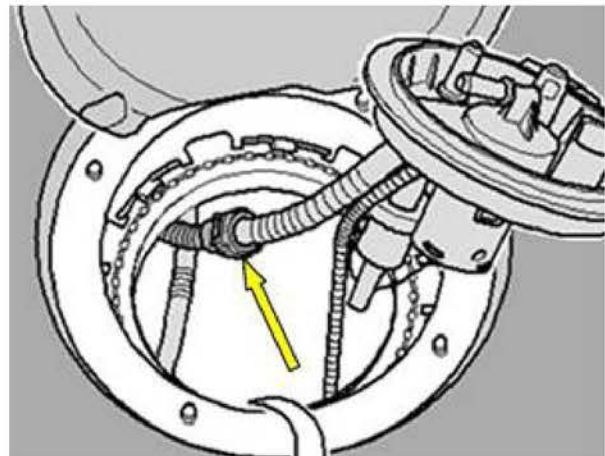

Figure 3. Fuel line connected to the locking flange.
4. Disconnect fuel line (Figure 3) by pressing release button.